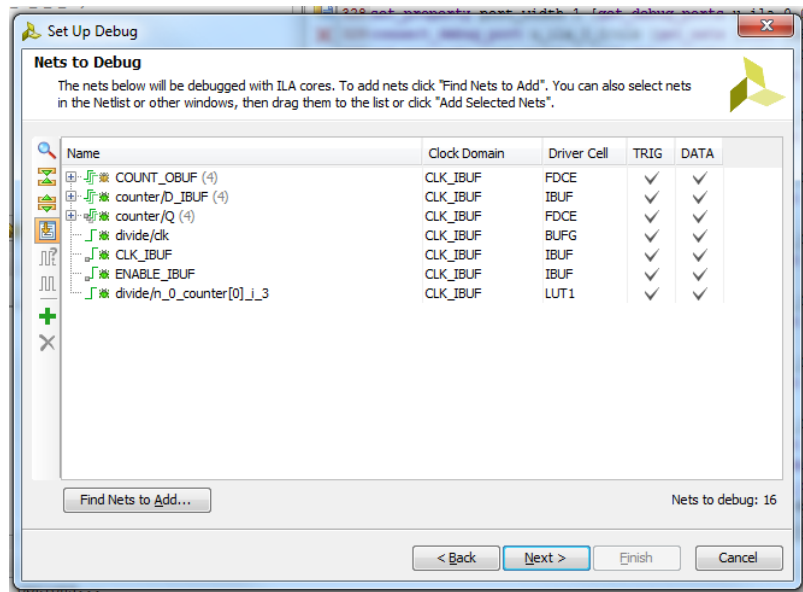

Figure 3. Assigning Clock Domain to Nets
2. Click through the wizard to create Vivado logic analyzer debug cores, keeping the default settings. Make sure you assign a clock domain to each signals as shown in Fig 3.